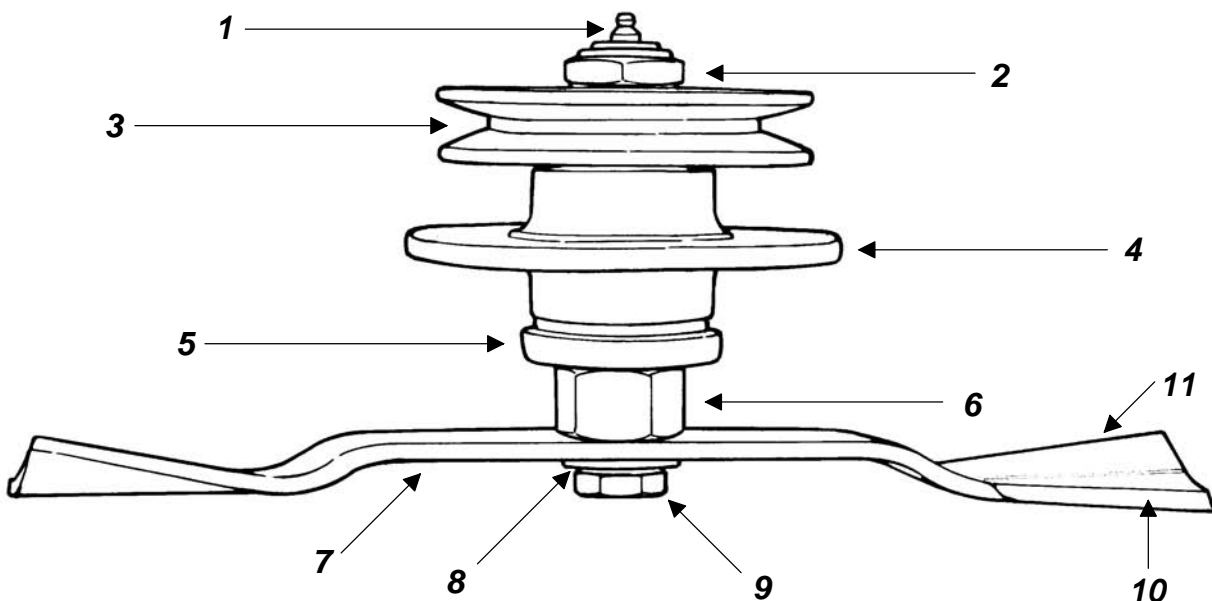

Fig. 20 - Spindle assembly.
1. The blade turns in a **counter clockwise** direction when viewed from the bottom of the deck. The cutting edge must be towards the direction of rotation. The lift wing of the blades is closest to the deck and the cutting edge away from it (**see fig. 20**).
2. Install the cup washer (see fig. 20) over the blade bolt and secure the blade in place as described above.